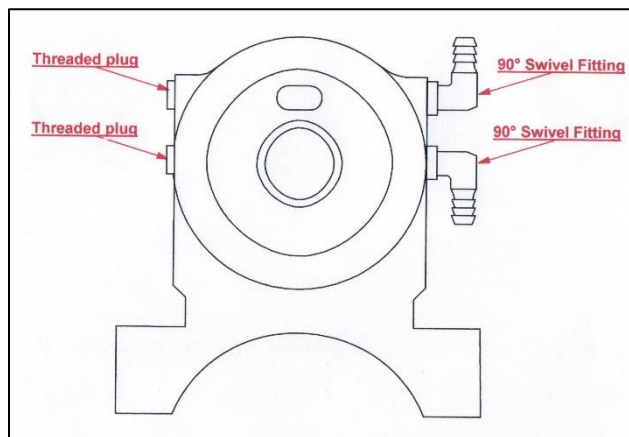

FIG. 3
- 4- Install the threaded filter attaching tube (short side in, notched side out), hose fittings and plugs. Use a small amount of red or blue Loctite (or equivalent) on the threads. **DO NOT** over tighten the hose fittings and plugs. They are tapered pipe thread and overtightening may crack the aluminum body. See FIG. 3